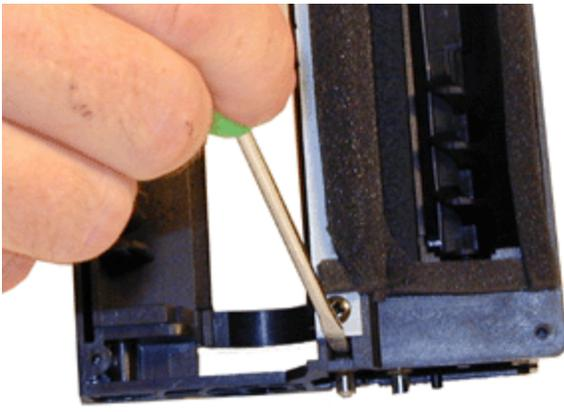

FIGURE 16
13. Press in on the top tab of the roller plate to release it. See Figure 16